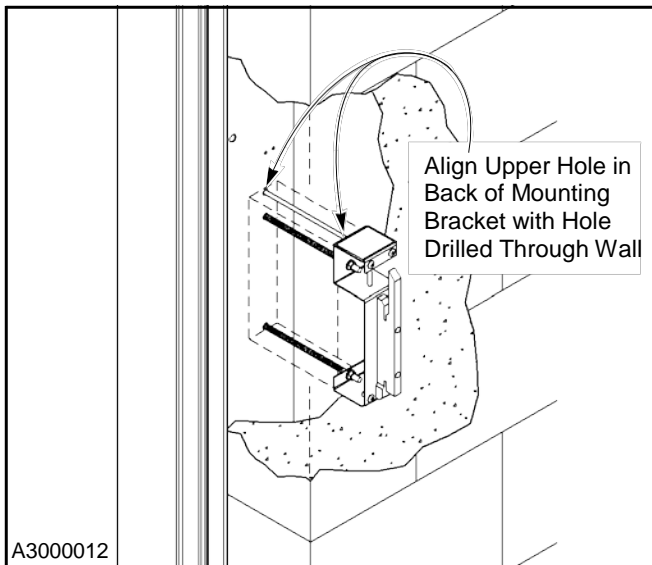

Figure 26
IMPORTANT: Drill the hole perpendicular to the side column. (See Figure 26.)
- Working from the back side of the door, align the upper hole in the brake release lever mounting bracket with the hole drilled earlier through the wall. (See Figure 26.)